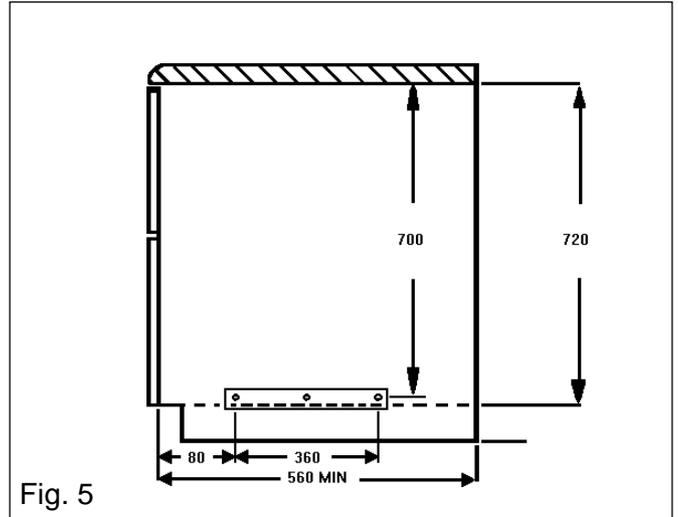
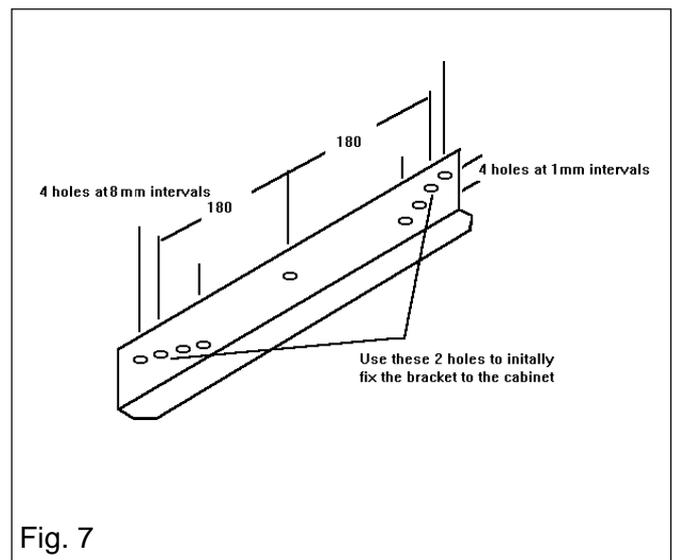

Fig. 5
Fig. 7
- Make sure the space between the cabinets is the correct size for the appliance to be fitted (Ref. Fig. 5 & 6).
- Drill two pilot screw holes into the sides of the adjacent cabinets, in the positions indicated by Fig. 5.
- Fit the appliance mounting brackets using the two holes indicated in Fig. 7 to the adjacent cabinets (Ref. Fig.5 & 6).